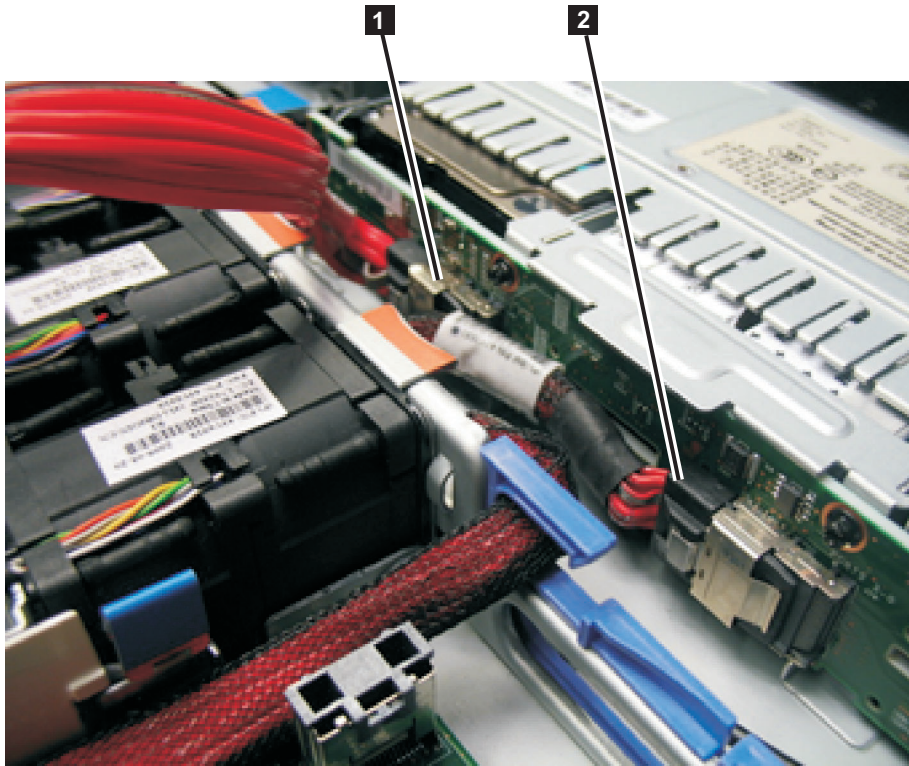

Figure 203. Boot-disk SAS cable and the high-speed SAS cable connected to the disk backplane in the SAN Volume Controller 2145-CF8
9. Connect the SAS boot-drive cable (the cable to drive bays 4 and 5) to the connector on the disk controller that is closer to the power supplies. Figure 203 on page 218 shows the boot-disk SAS cable connected to the disk backplane.